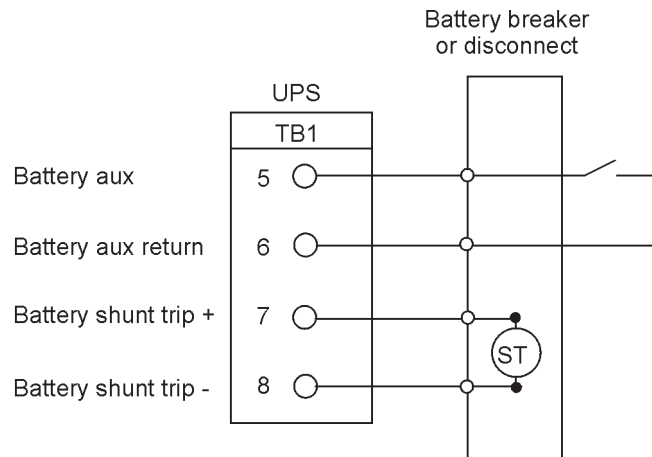

Figure 4-11. Typical battery interface connection
5. To locate the appropriate terminals and review the wiring and termination requirements, see Table 4-1 on page 57, and Figure 4-9 through Figure 4-11.